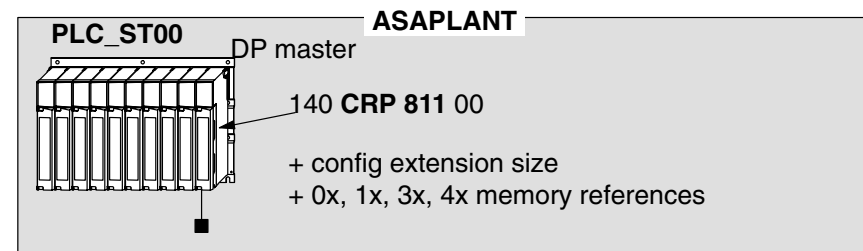

Figure 5 Quantum hardware for the Modsoft PROFIBUS-DP configuration portion
**Note:** The representation offered in Figure 5 only pertains to the DP configuration portions.